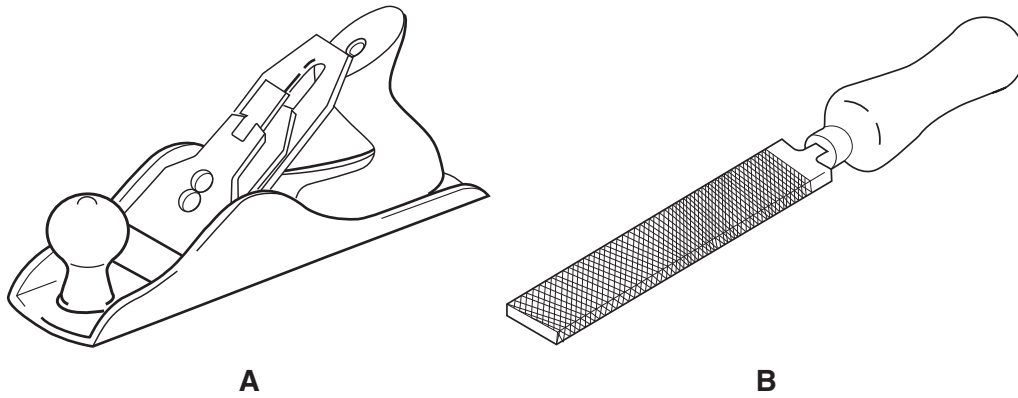

Fig. 1
- 1 Fig. 1 shows two different cutting tools.